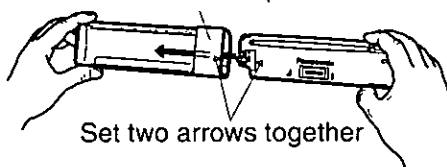

Fig.3
- ④ As shown in Fig.3, insert the removable face plate with the arrow pointing toward the removable face plate case until you hear a "click". Keep the removable face plate in the case. Then, you can bring the plate safety.
④ Removable face plate case